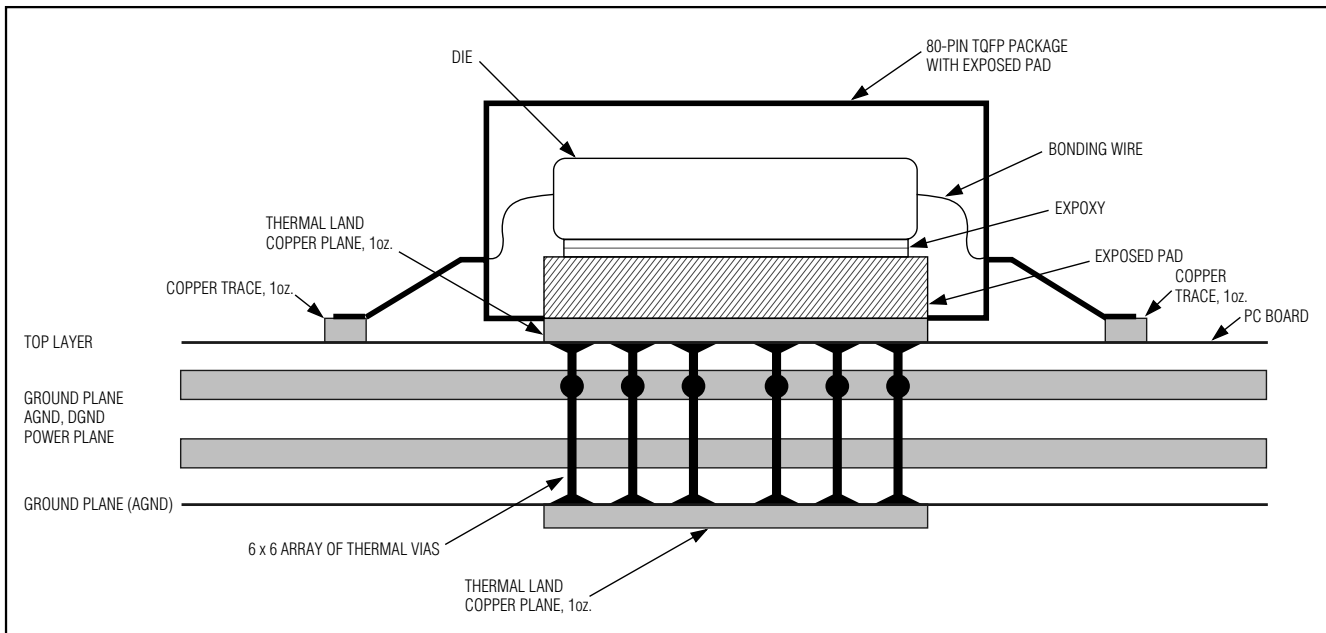

Figure 10. MAX107 Exposed Pad Package Cross-Section
tion-case (θ_{jc}) resistance of $\approx 1.26^{\circ}\text{C}/\text{W}$. In this package, the data converter die is attached to an exposed pad (EP) leadframe using a thermally conductive epoxy. The package is molded in a way, that this leadframe is exposed at the surface, facing the printed circuit board (PC board) side of the package (Figure 10). This allows the package to be attached to the PC board with standard infrared (IR) flow soldering techniques. A specially created land pattern on the PC board, matching the size of the EP (7.5mm x 7.5mm) does not only guarantee proper attachment of the chip, but can also be used for heat-sinking purposes. Designing thermal vias* into the land area and implementing large ground planes in the PC board design, further enhance the thermal conductivity between board and package. To remove heat from an 80-pin TQFP package efficiently, an array of 6 x 6 vias ($\leq 0.3\text{mm}$ diameter per via hole and 1.2mm pitch between via holes) is required.